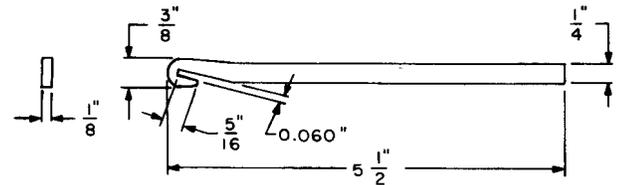

Fig. 21—328 Adjuster Tool
2.21 **328:** The 328 tool (Fig. 21) is used in adjusting 1-type guides.